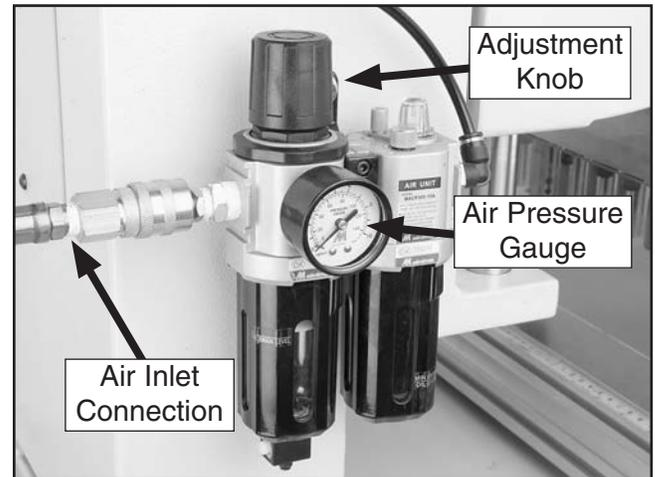

Figure 14. Air regulator unit.
10. Adjust the air pressure on the air regulator by pulling up on the regulator adjustment knob (see **Figure 14**), and turning it so that the air pressure gauge reads 70 PSI.